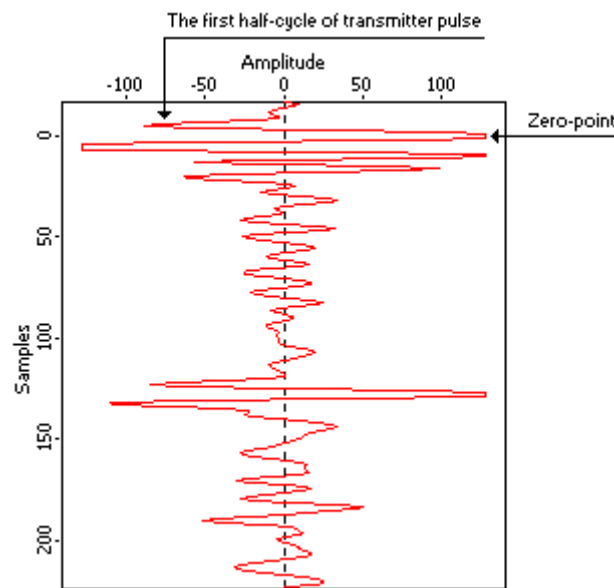

Fig. 4.1. Trace output
- **Zero point** – the trace sample corresponding to the moment of the transmitter radiation maximum. It is the sample that used as a zero. It is a point where starts time counting of the reflected signal. As mentioned above, the transmitter pulse is one and a half period (i.e., three lobes) signal. This suggests that the zero point should be set to the middle of the transmitter pulse lobe (direct wave). The way to set the zero point is described in Section 11. Working with sounding data files on page 46. This is a very important parameter that must be taken into account while depth determination of the target in the sounded medium. Examples of the true zero point location are shown in Fig. 4.1, 4.2, 4.3, 11.3.